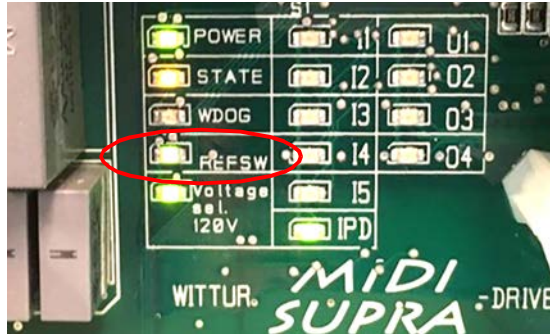

Figure 12 - Activated REFRSW (reference switch) LED
13. Verify that the REFRSW (reference switch) LED activates approximately  $\frac{1}{2}$ " before the door is closed. See Figure 12.